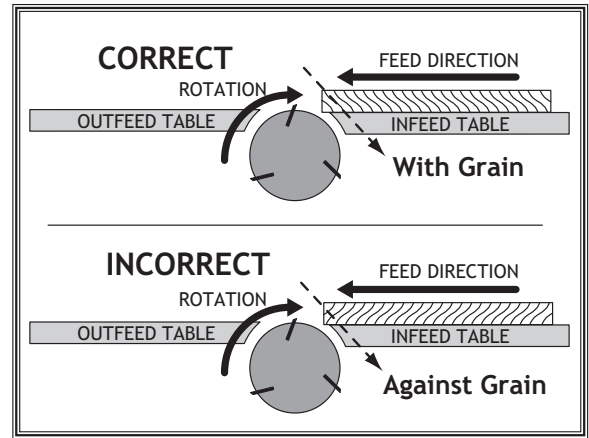

Figure 20. Proper grain alignment with cutterhead.
- **Jointing and surface planing with the grain produces a better finish and is safer for the operator.** Cutting with the grain is described as feeding the stock on the jointer so the grain points down and toward you as viewed on the edge of the stock (see Figure 20).